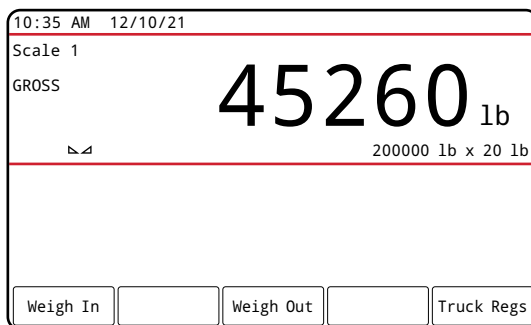

Figure 7-2. Truck Mode Softkeys
**NOTE:** Softkey 2 and Softkey 4 must be set to Blank in order to achieve the softkey arrangement in Figure 7-2.